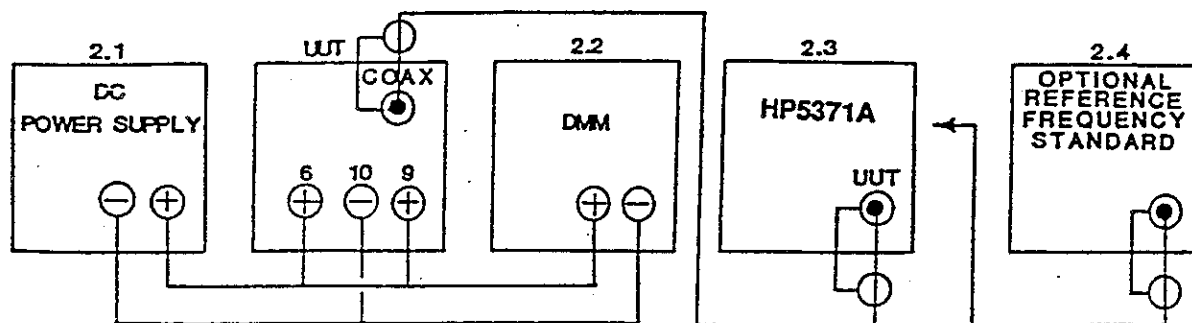

Figure 2-2. Operational Frequency Accuracy Test Setup.
- a) Connect the equipment as shown in Figure 2-2.
- a) With the equipment connected as shown in Figure 2-2, and the required stabilization time allowed, (refer to NOTE following 2-9b), begin the test.